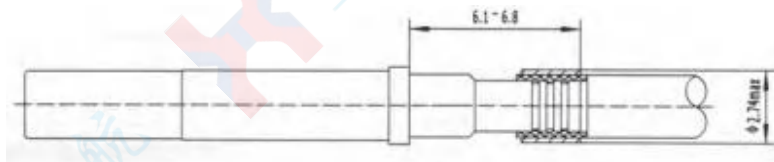

图14
⑦ Place the shield crimp sleeve forward onto the cable shield layer as shown in Figure 14, with the positional dimension ranging from 6.1 to 6.8 mm. Trim off the excess shield layer extending beyond the shield crimp sleeve. Perform crimping on the shield crimp sleeve using tool M22520/4-01 and locator M22520/4-02: make the first crimp, rotate the contact by 45 degrees, and then perform the second crimp. After the second crimp, the diameter of the shield crimp sleeve must not exceed 2.74 mm.